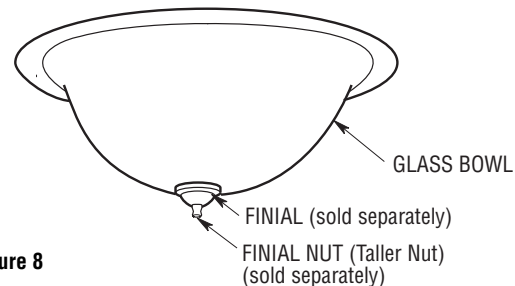

Figure 8
9. Gently place the glass bowl onto the light fixture (Figure 8). Then place the finial (sold separately) onto the threaded light fixture. Tighten the taller finial nut (supplied with finial) onto the threaded light fixture.